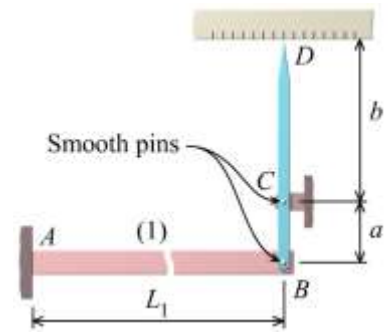

FIGURE P2.21
**P2.21** The simple mechanism shown in Figure P2.21 can be calibrated to measure temperature change. Use dimensions of  $a = 25$  mm,  $b = 90$  mm, and  $L_1 = 180$  mm. The coefficient of thermal expansion for member (1) is  $23.0 \times 10^{-6}/^\circ\text{C}$ . Determine the horizontal displacement of pointer tip  $D$  of the mechanism shown in response to a temperature increase of  $35^\circ\text{C}$ . Assume that pointer  $BCD$  is not affected significantly by temperature change.